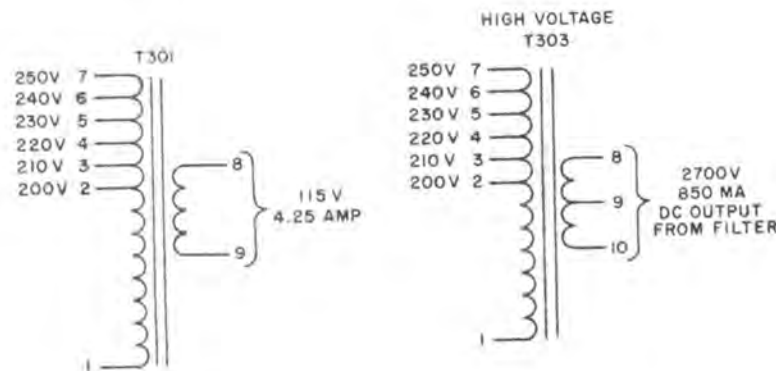

Figure 2-2. Transformer Details
- b. Remove the solder lug from T301, terminal 4, and move to the transformer terminal whose input voltage is nearest to the voltage measured in step a. Do not move the solder lug from transformer terminal 5, as this terminal supplies 230 volts to the cabinet fan for all line input connections. See figure 2-2 for transformer terminal numbers versus input voltage.
- c. Remove the solder lug from T303, terminal 5, and move to the transformer terminal whose input voltage is nearest to the voltage measured in step a. See figure 2-2 for transformer terminal numbers versus input voltage.